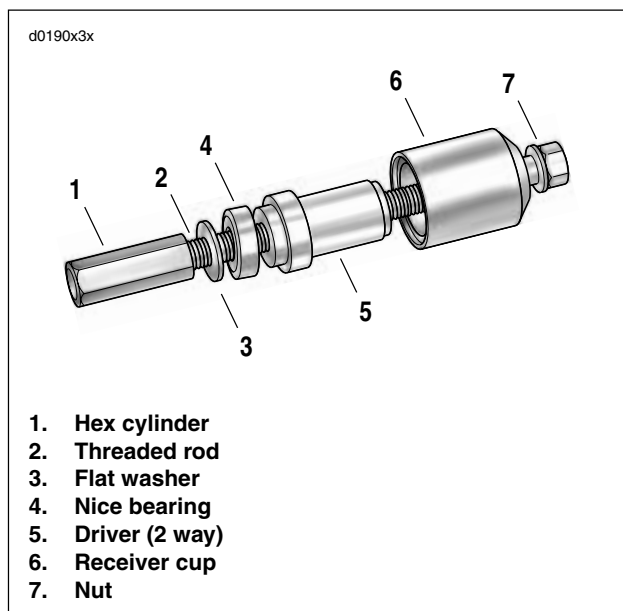

Figure 3-101. Connecting Rod Bushing Remover/Installer (Part No. HD-95970-32D)
2. See Figure 3-101. Attach PISTON PIN BUSHING TOOL (Part No. HD-95970-32D) to the connecting rod.